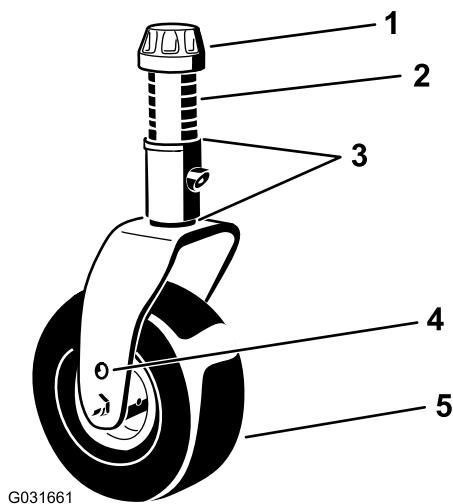
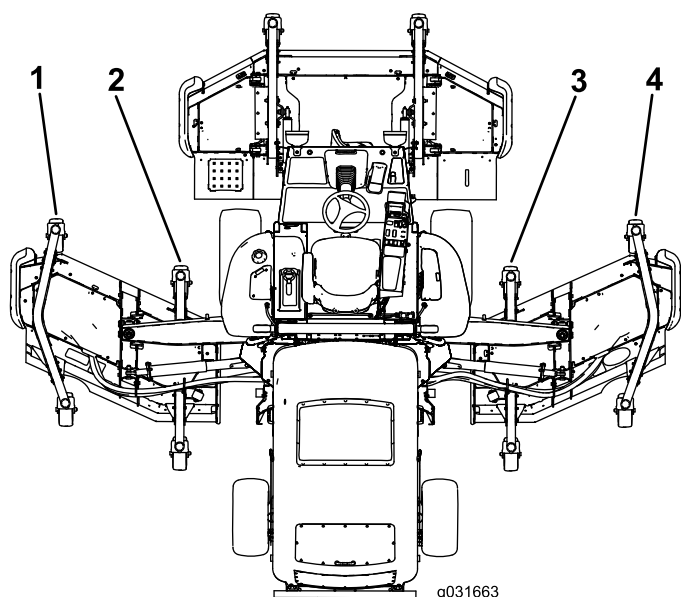

Figure 28
Figure 29
5. If the inside edge of the wing cutting unit is too high relative to the outside edge of the front cutting unit, remove 1 shim from the bottom of the front, inside caster arm on the wing cutting unit (Figure 28 and Figure 29).
- If the inside edge is still too high, remove an additional shim from the bottom of the front, inside caster arm of the wing cutting unit and 1 shim from the front, outside caster arm of the wing cutting unit (Figure 28 and Figure 29).
- If the inside edge of the wing cutting unit is too low relative to the outside edge of the front cutting unit, add 1 shim (1/8 inch) to the bottom of the front, inside caster arm on the wing cutting unit (Figure 28 and Figure 29).